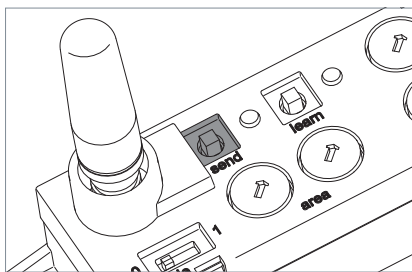

Fig. 21: "send" key.
- Press the "send" key, see Fig. 21.